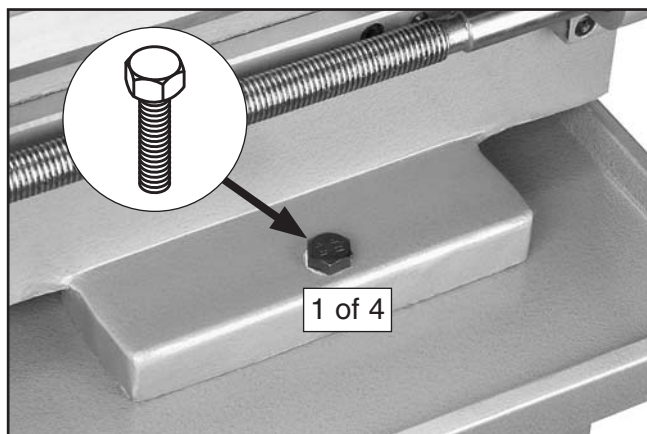

Figure 9. Mounting hex bolt installed (1 of 4).
9. Install the four $\frac{5}{8}$ -13 x 2 $\frac{1}{4}$ " hex bolts through the machine base, chip pan, and into the cabinet stands (see **Figure 9**).